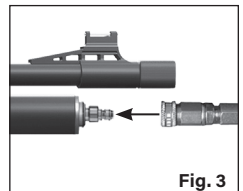

Fig. 3
3. Attach the quick disconnect fitting from your filling equipment to the fill nipple on the airgun (Fig 3).